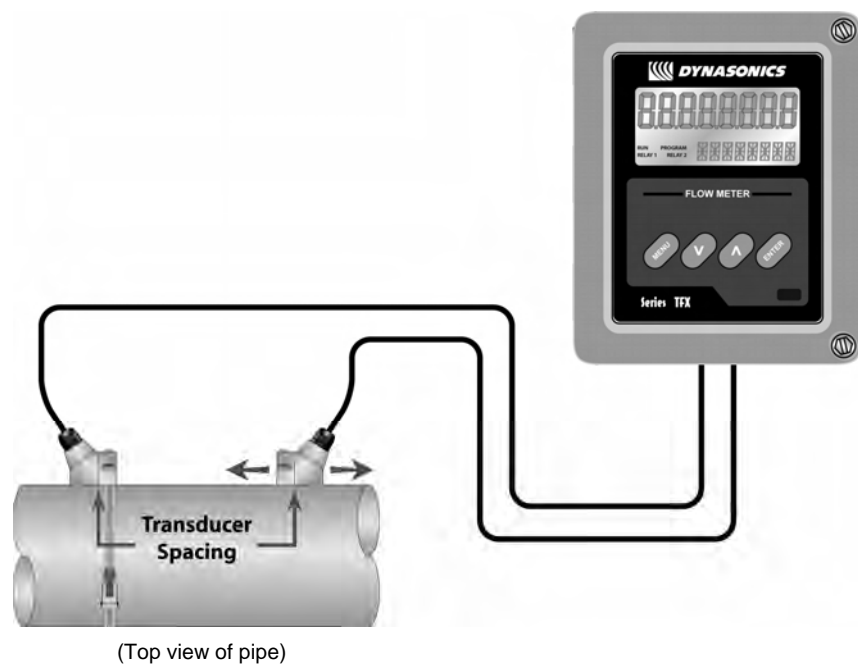

Figure 2.3
3. Place the downstream transducer on the pipe at the calculated transducer spacing. See **Figure 2.3** on page 2.10. Using firm hand pressure, slowly move the transducer both towards and away from the upstream transducer while observing signal strength. Signal strength can be displayed on the TFXD2 display or on the main data screen in *UltraLink™*. See Part 4 of this manual for details regarding the *UltraLink™* software utility. Clamp the transducer at the position where the highest signal strength is observed. A signal strength between 2 and 195 percent is acceptable.